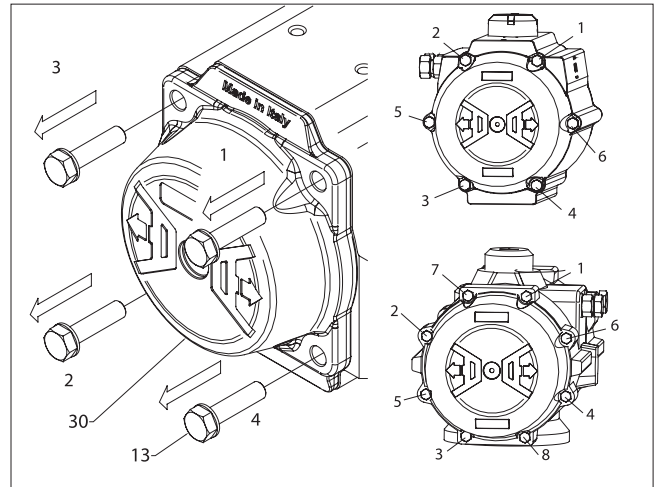

Figure 5.
- B. Remove stop screw o-rings (11) and discard if replacing all soft parts.
**3. End Cap (30) Disassembly, (Figure 5):**
- A. Remove the end cap bolts (13) in the sequence shown in (Figure 5).
**CAUTION (VPVL051):** The springs within the spring return version of the size “051” actuator are not captured in a cartridge. The end cap bolts are 30mm long to allow the spring force to be completely released prior to removal of the end caps (30). Slowly back out all 4 end cap screws (13) evenly to allow the spring force to be safely released prior to removal of the end cap (30).
**CAUTION (VPVL100 - 800):** When disassembling a spring return actuator, the end cap (30) should be loose after unscrewing the end cap bolts (13) 4-5 turns. If there is still force on the end cap (30) after 4-5 turns of the end cap bolts (13), this may indicate a damaged spring cartridge and any further disassembly of the end cap may result in serious personal injury! Re-tighten the end cap bolts and direct the complete actuator to a Valmet Service Center for further maintenance.
- B. For spring return actuators, remove spring cartridges (17).